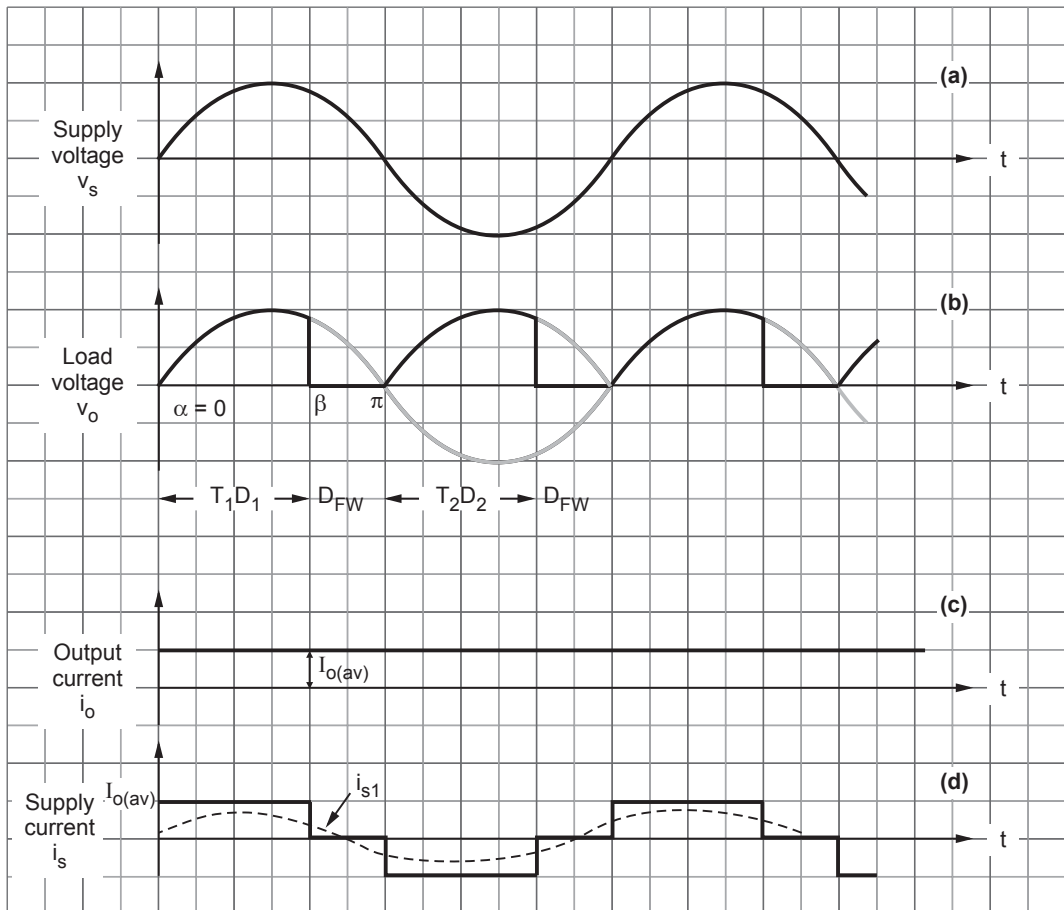

Fig. 2.5.2 Waveforms of EAC
Fig. 2.5.2 shows the waveforms of extinction angle control.
- Fig. 2.5.2 (d) shows the supply current for ripple free load current. The dotted line shows fundamental component (first harmonic i_{S1}) of supply current.